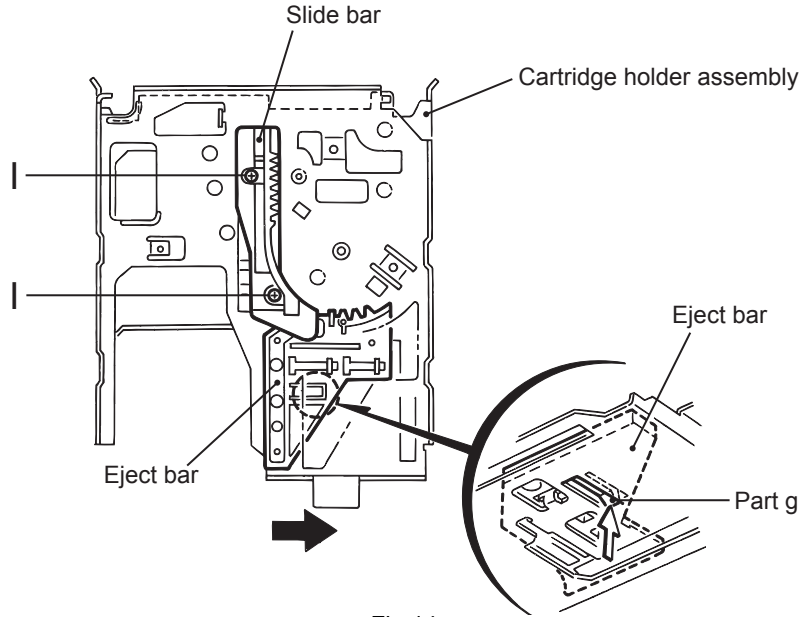

Fig.14
(See Fig.14 and 15)**
- (1) Remove the slide bar upward.
- (2) Move the eject bar outward until it stops as shown in Fig.14. Push the convex part g on the bottom of the body and remove the eject bar from the chassis.